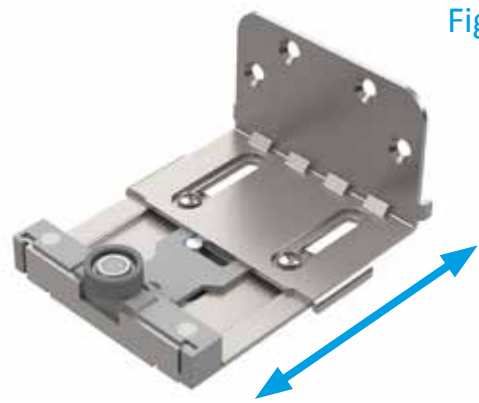

Figure 2.
3. Using the screwdriver unscrew the bottom guide and slide up according to the thickness of the selected door, as guided in **Figure 2**.